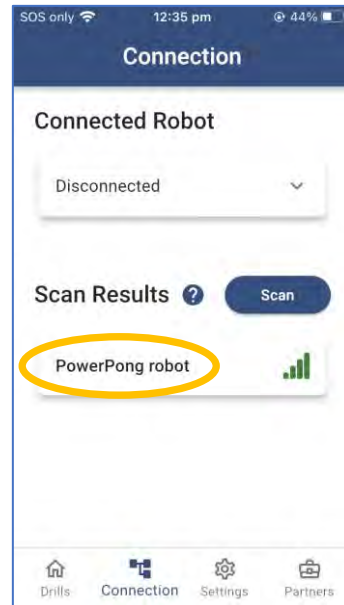
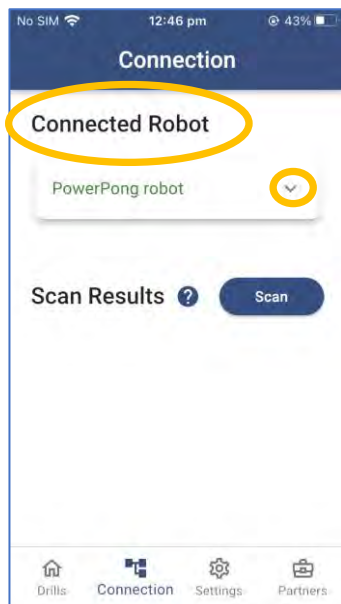
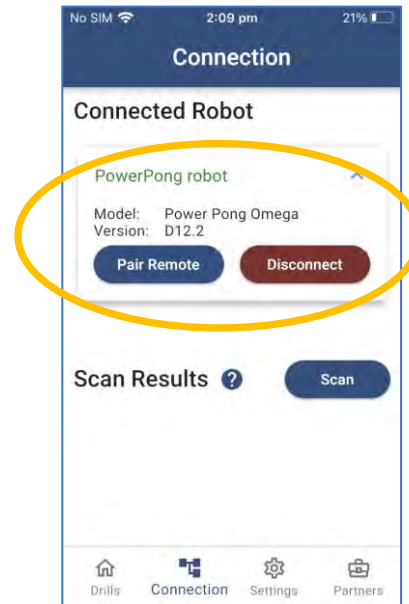

Figure 2-14
Figure 2-15
Figure 2-16
6. Connect the application to the robot by pressing “Power Pong robot” (Figure 2-14). You will then see a screen confirming Connection as shown in Figure 2-15. Once connected, you can touch the down arrow to the right of the robot name, to see the version of the Power Pong application. (Figure 2-16)